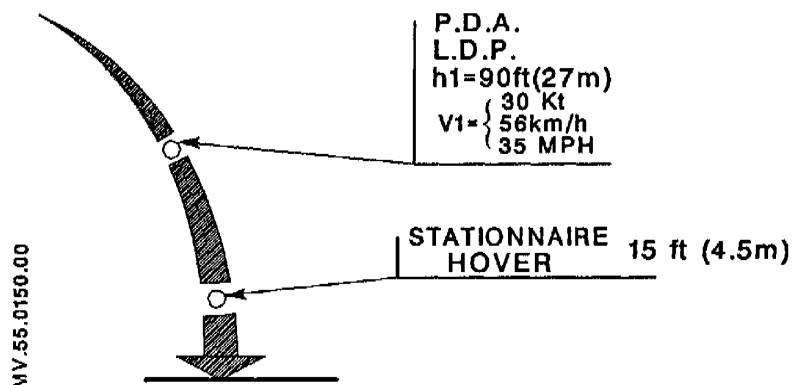

Figure 7
4.2.1 Normal landing procedure (figure 7)